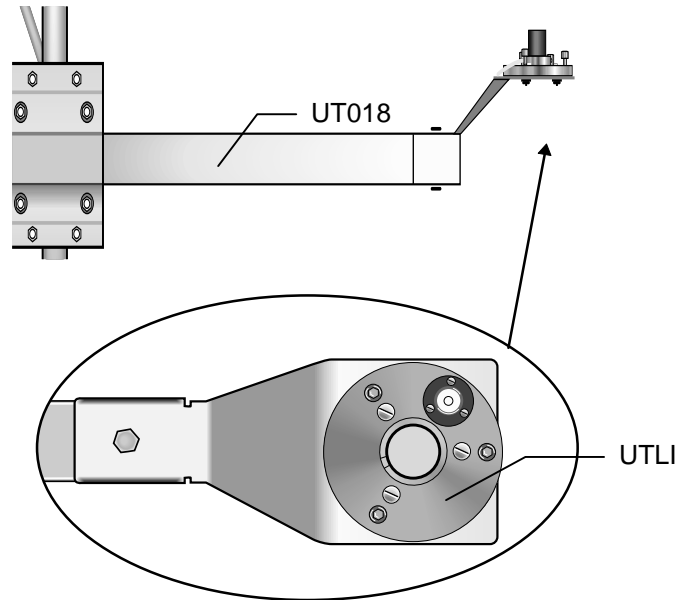

FIGURE 2.2-4. UTLI Leveling Fixture/Crossarm Mount and UT018
1. Attach the UTLI leveling fixture to the UT018 crossarm with the nut and bolt provided (Figure 2.2-4).